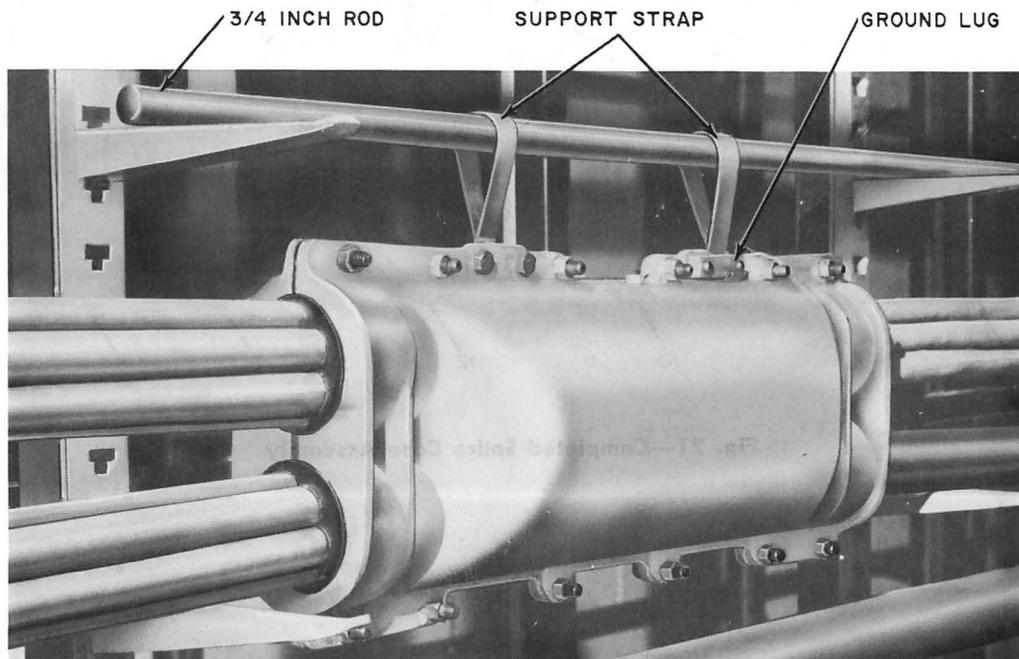

Fig. 22—Supporting Splice Case
11.02 Support the entire weight of the completed splice on a 3/4-inch rod or equivalent, placed across two cable hooks (Fig. 22).